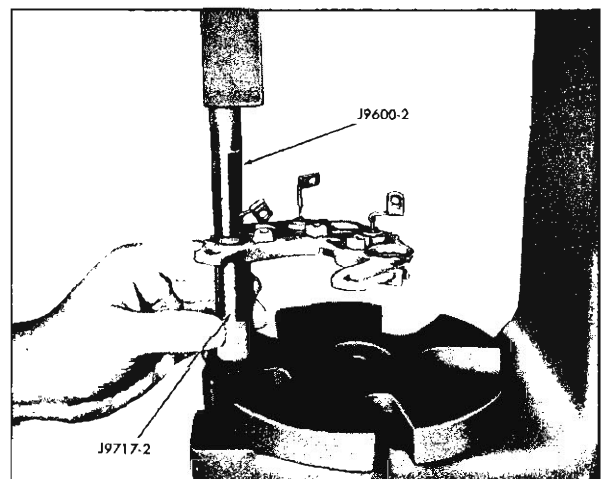

Fig. 30—Installing Diodes with Press Tools
3. Support outside of end frame around diode hole on a flat, smooth surface and press diode into position with J-9600-2 and an arbor press. Make sure diode is square with end frame and started straight (fig. 30).